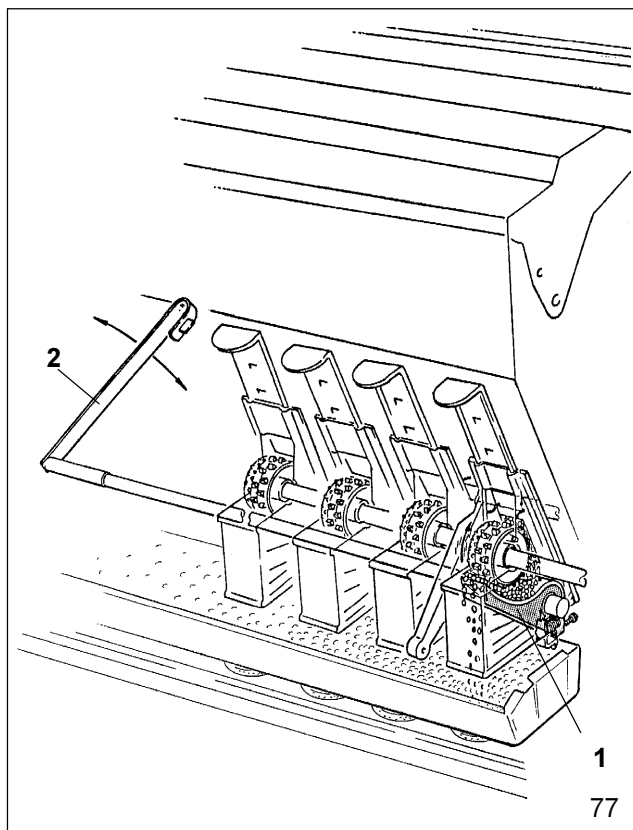

Fig. 26.2
Incorrectly set bottom flaps (Fig. 26.2/1) may lead to inaccurate seed flow (over application) during sowing operation. Therefore, check the bottom flaps every six months or before every sowing season. This must be carried out with an empty seed box and empty seed housings.
2. Bring bottom flap setting lever (Fig. 26.2/2) at the setting plate into position "1" of the quadrant plate and secure.